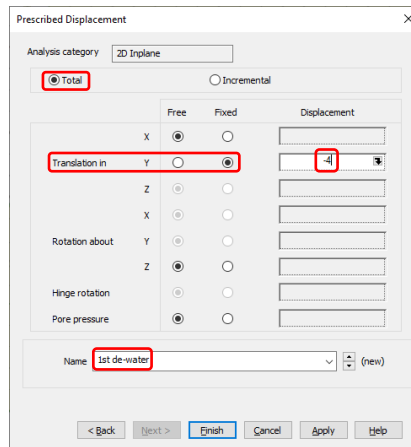

Figure 35: Definition of prescribed displacement attribute
- Select **Attributes > Loading...** then the radio button **Displacement, velocity, acceleration, body force** followed by the radio button **Prescribed Displacement** and then click on **Next**. Click the radio button **Total**, then the radio button **Translation in Y** and enter **-4** in the **Displacement** field. Enter a name of **1st de-water** and click **Apply** (figure 35).